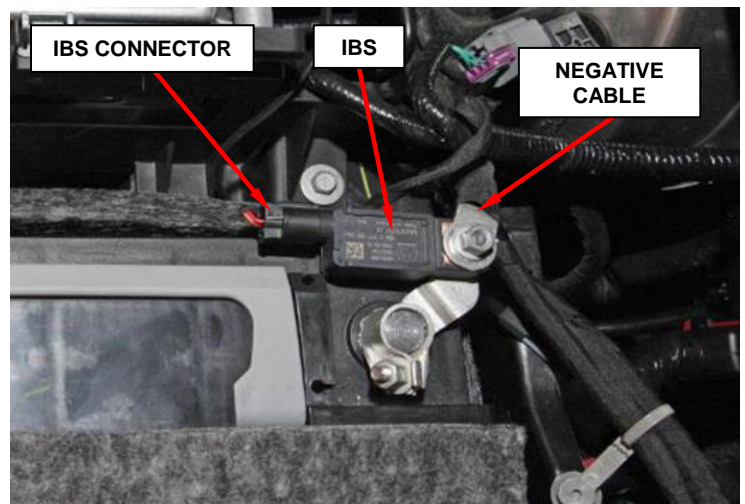

**Figure 1 – Drivers Side View Mirror**
1. Move the mirror into the full down position (Figure 1).